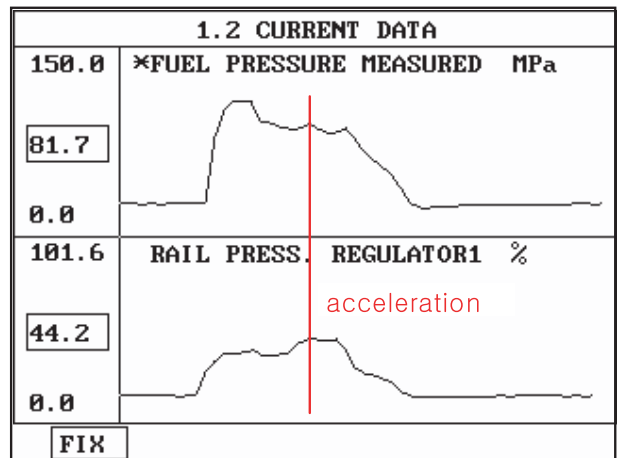

Fig.4
- Fig.4) Fuel pressure and Fuel pressure regulator valve data at acceleration.